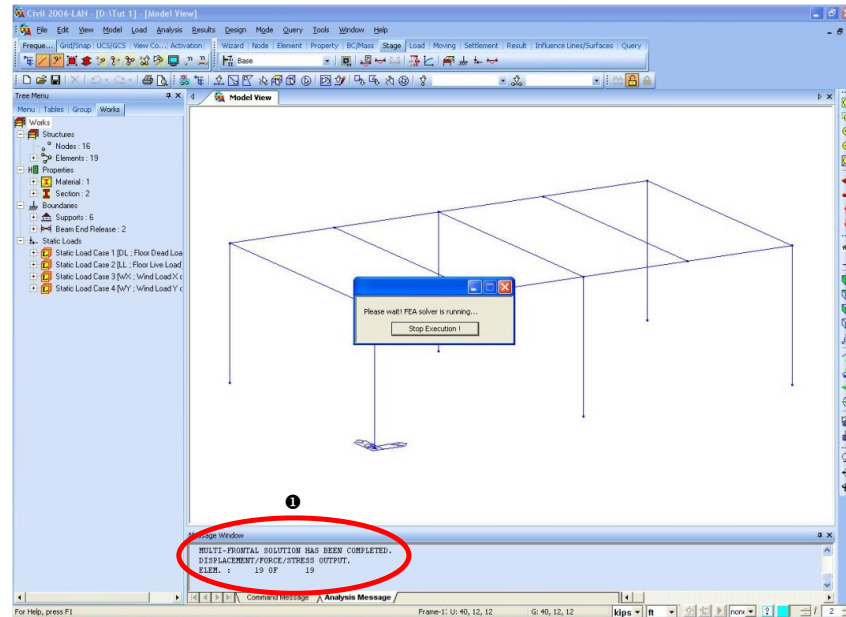

Figure 1.21 Execution Process of Structural Analysis
Once the structural analysis begins, the dialog box signaling the execution appears in the middle of the screen as shown in Fig.1.21. The overall analysis process, including the formation of the element stiffness matrix and the assembling process, is displayed step-by-step in the **Analysis Message Window** at the bottom of the screen (Fig.1.21-①).